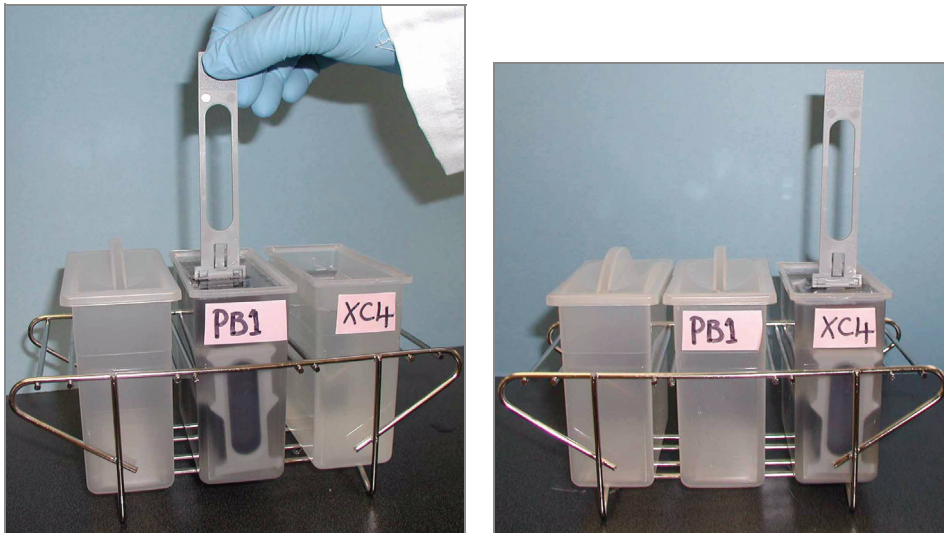

Figure 70 Moving BeadChips from PB1 to XC4
12. Remove the staining rack from the PB1 dish and place it directly into the wash dish containing XC4 (Figure 70). The barcode labels on the BeadChips must face **away** from you, while the locking arms on the handle face **towards** you, for proper handling and coating.